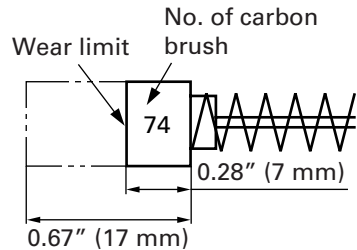

Fig. 12
## 3. Inspecting the carbon brushes (Fig. 12)
**NOTE:** Use HITACHI carbon brush No. 74 indicated in Fig. 12.